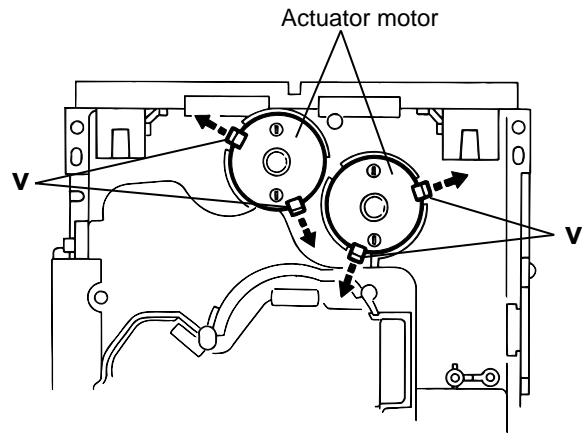

Fig.20
3. From the notch "u" section" on the chassis assembly fixing the edge of gear bracket, remove and take out the gear bracket(See Fig. 20).